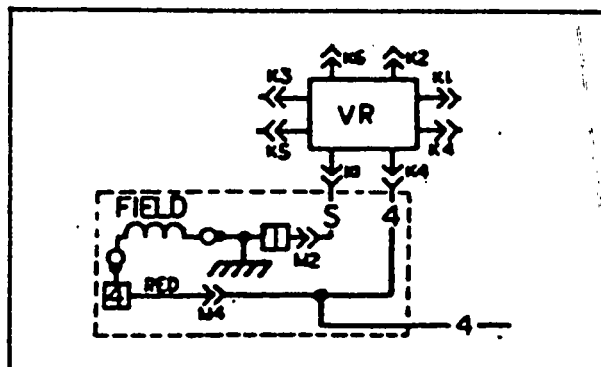

Figure 5.2-A. The Field Circuit
**5.2.5- CHECK FIELD CIRCUIT (Figure 5.2-A)**
### 5.2.6- CHECK ROTOR WINDINGS (Figure 5.2-A)